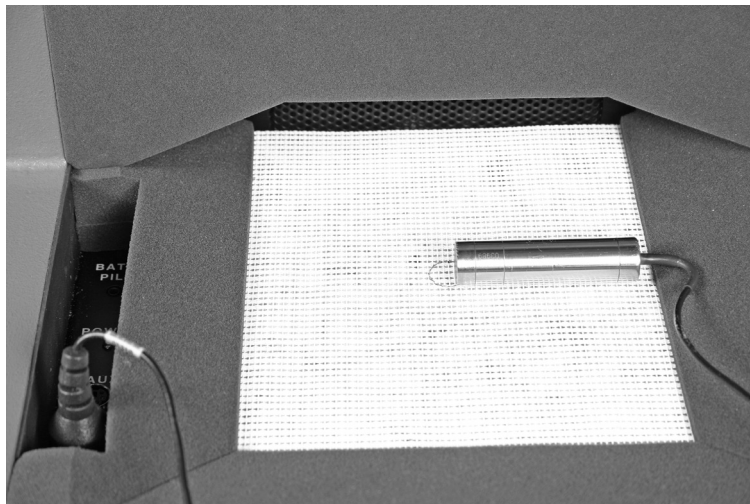

Figure 3.2.1—Leveling the 8050 & 8060 Sound Chambers
2. Place the microphone in the sound chamber with the microphone grill over the reference point at a 90° angle the speaker in the back of the chamber (Figure 3.2.1). Close and latch the sound chamber lid.